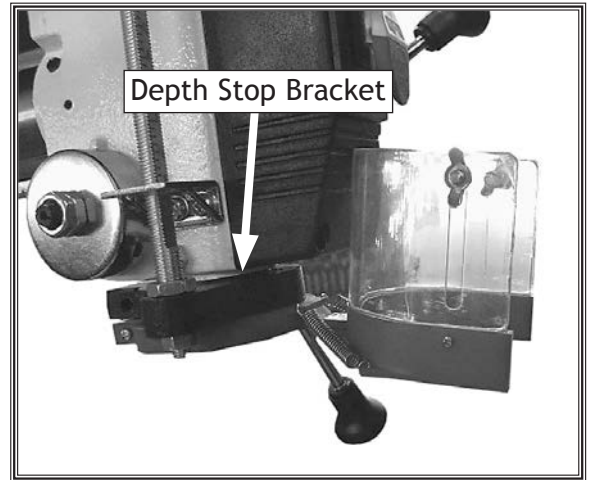

Figure 22. Chuck guard installed on depth stop bracket.
33. Slide chuck guard onto bottom of depth stop bracket, as shown in Figure 22.